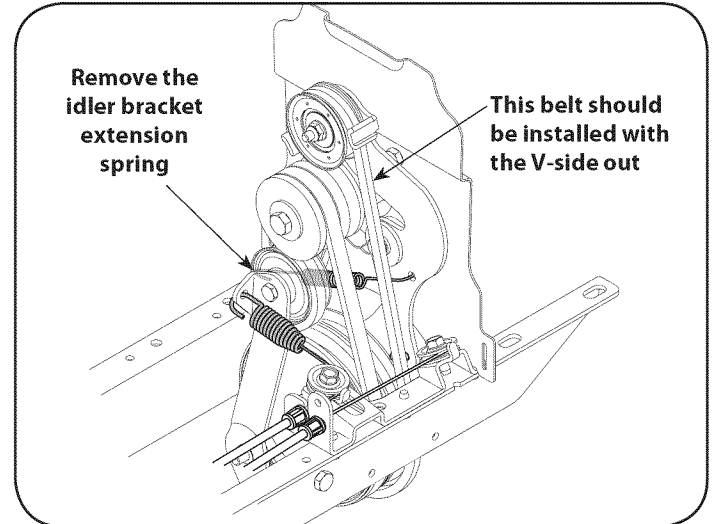

Figure 29
4. Remove the idler bracket extension spring. See Figure 29. It is recommended to use a pair of needle-nosed pliers, and grab the spring by the end that hooks over the frame. Simply grab it and pull it away from the frame, then up wards and carefully relieve the tension of the spring.